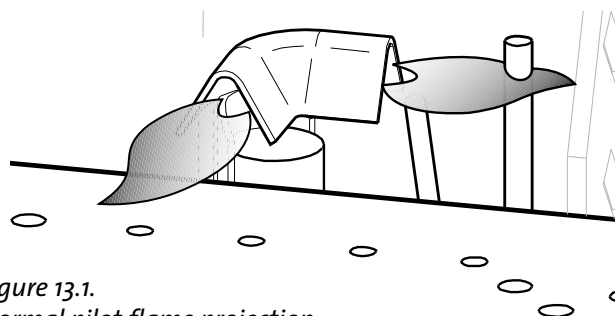

Figure 13.1.
2. **PILOT FLAME:** You can monitor the pilot flame located behind the burner at the rear of the firebox. The pilot flame should be steady - not lifting or floating. The flame should be blue in color around the pilot hood, with traces of yellow toward the outer edges. Fig. 13.1.